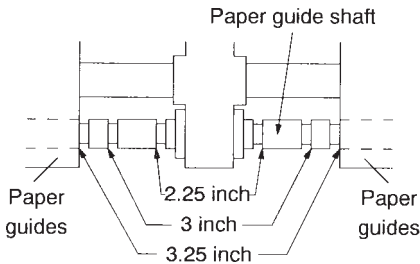

Fig. 2-8 Roll paper guide (SP342)
- ⑤ Set the left and right paper guides. Leave a 0.5 mm gap between the paper guide and the edge of the paper and fix the lock lever.
- When you insert the stop ring that corresponds to the groove of the paper guide shaft shown in Fig. 2-8, that will be the position when you set the paper guide.